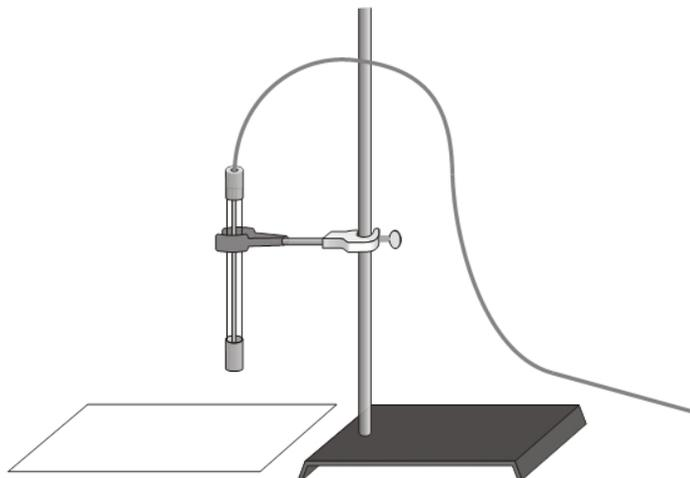

Figure 1
2. Use a utility clamp and ring stand to fasten a Light Sensor 5 cm from and perpendicular to the surface of the table (see Figure 1). The classroom lights should be on.